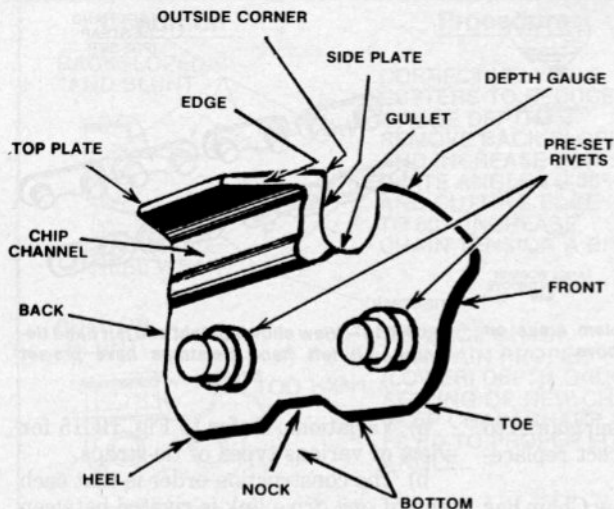

Fig. HC19 - View of pre-set left-hand cutter.
a) Descriptive orientation. Refer to Fig. HC19 for a view of a left-hand cutter.